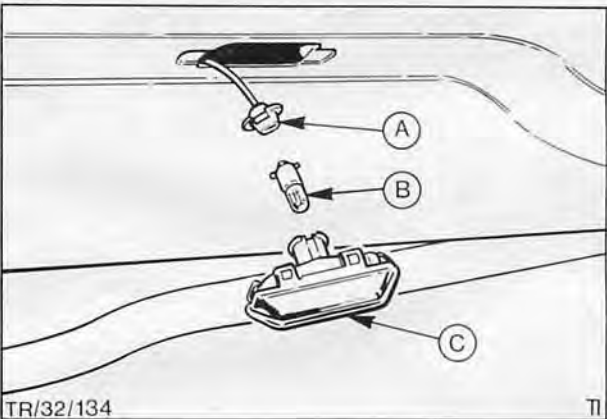

Fig. 33. A – Bulb holder
2. Remove bulb holder Fig. 33.